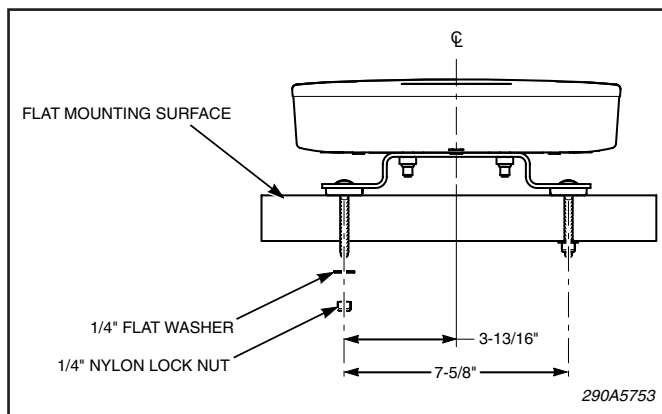

Figure 2.
B. See figure 2. Scribe a drill mark at least 4-1/8" in from the end of the lightbar and 3-13/16" forward of the lightbar center. Repeat on the other end of the light bar. Note and record distance "A".
C. See figure 2. Scribe another drill position mark 7-5/8" behind from the previously scribed drill position mark. Be sure the holes are centered front to back on the lightbar. Repeat on the other end of the lightbar.